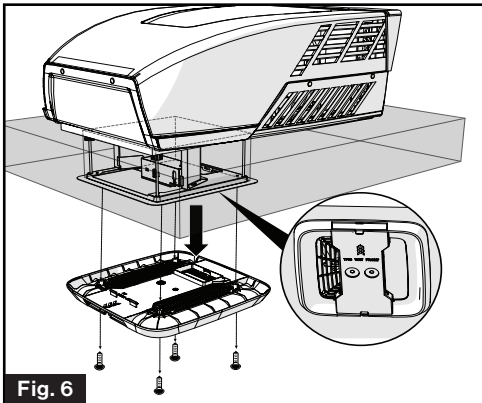

Fig. 6
7. Remove the trim kit body by unscrewing the four screws. Leave the metal bracket and mounting screws attached. (Fig. 6)